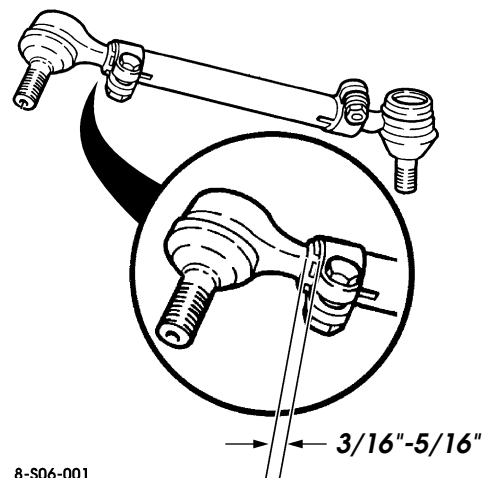

Figure 8-8: Tie Rod Sleeve Clamp Position
7. Align the sleeve clamps and tighten the bolt and nut assemblies to 30 lb-ft (41 N•m) (Figure 8-8).